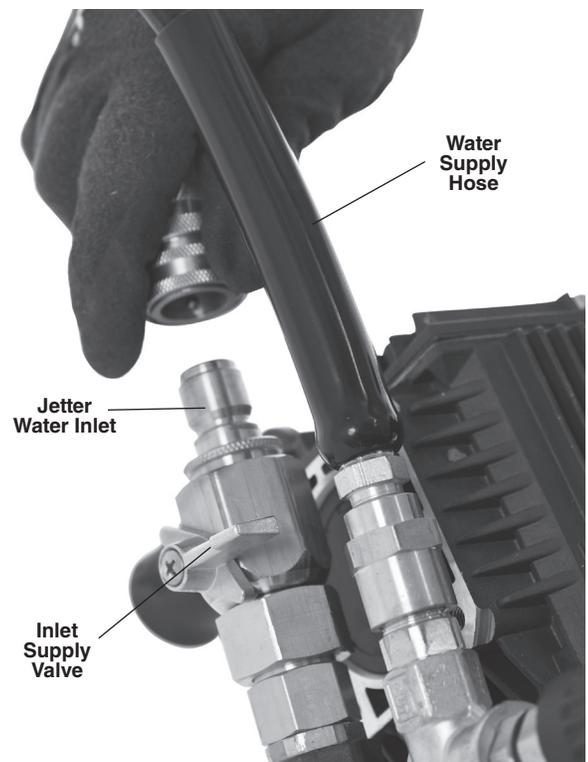

Figure 3 – Connect Water Supply Hose to Jetter. Close Inlet Supply Valve (Shown In Closed Position.)
2. Connect the quick coupling fitting to the water supply hose. Connect water supply hose to the jetter inlet and close the inlet supply valve. (Figure 3)